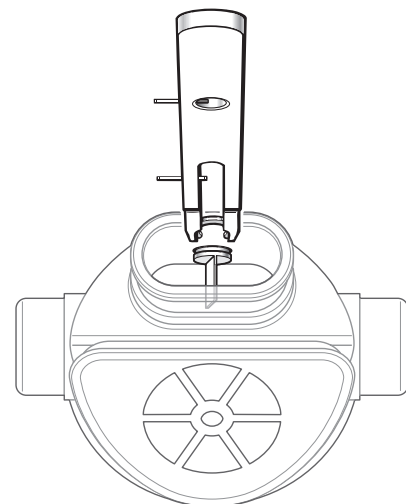

Fig. 9 – V.A.S. Circlip Installation
4. While holding the vane switch in place, set the box bottom on a flat surface with the open side facing down and the switch at 12 O'clock. Guide the tool holding the circlip into the outlet boss, with the top surface of the tool held flush against the ceiling, directly behind the vane. Press the circlip evenly onto the groove of the vane stem until it snaps audibly into place (see Fig. 9). Remove the tool and examine closely to ensure the circlip is seated completely inside the groove. Remove and reinstall the circlip if necessary.